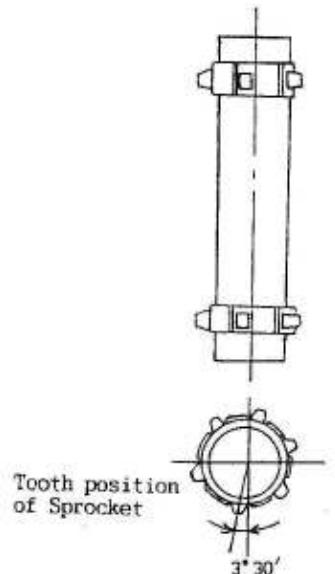

Fig.51
When the Winding Lever has been operated up to the fully wound position, the tooth position of the Sprocket (15937020) must be as shown in Fig.51. For Adjustment, change the position of the Sprocket Shaft (15964700) and the engagement between the marking-off line of the Idle Gear (A) and the center-punched mark of the W. Gear (1AE60200). (See page B-20)